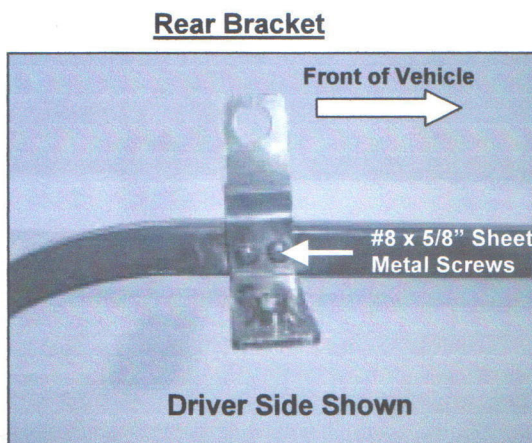

Figure 2
2. Locate Driver Side Door Surround (L), Front (M), and Rear (N) Door Surround Bracket, (4) #8 x 5/8" Sheet Metal Screws (H). Attach Front and Rear Brackets to Door Surround with hardware listed in this step (Figure 2 & 3). **NOTE:** The Threaded Nipple on both brackets should face up and towards the inside of the vehicle.